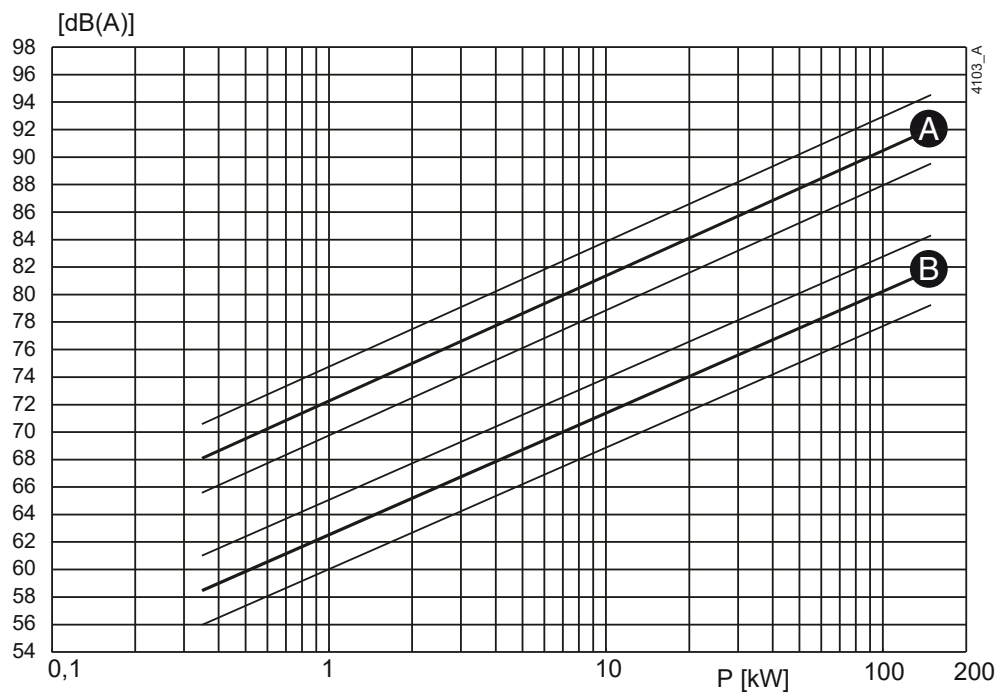
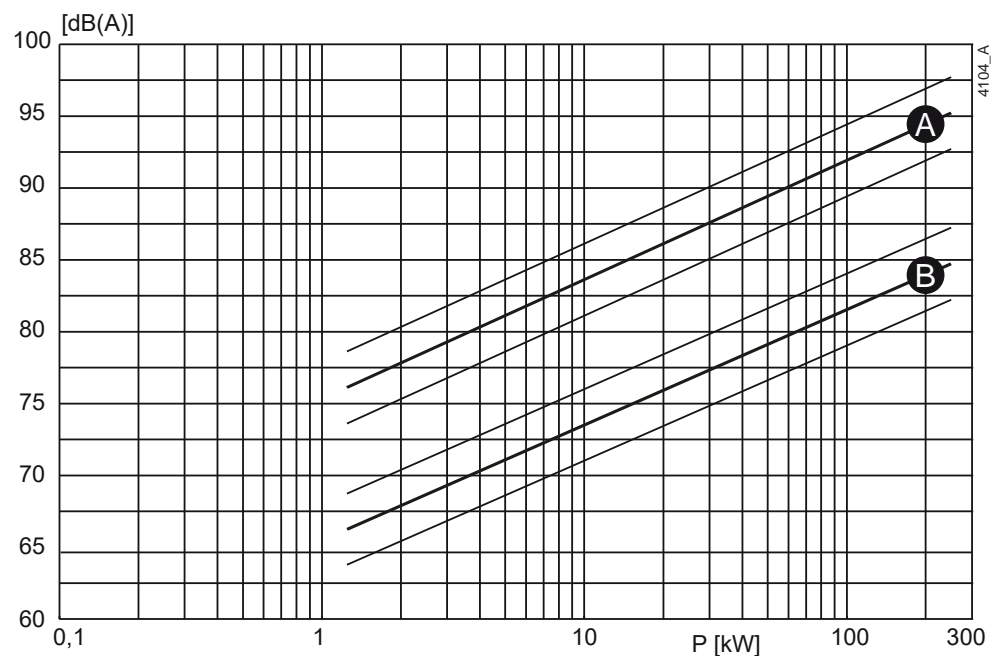

Figure 51: Noise level as function of pump power [kW] at 1450 min⁻¹
Figure 52: Noise level as function of pump power [kW] at 2900 min⁻¹
- 1 Determine the noise level (L_1) of the pump, see figure 51 or figure 52.